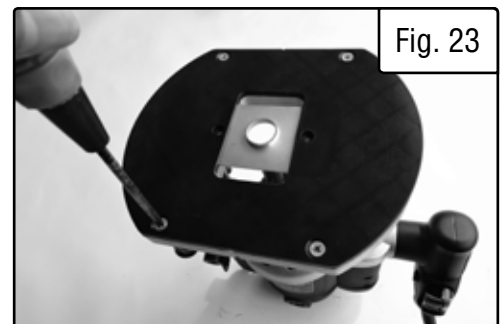

Fig. 23
2. Place the template guide or template guide adapter in the recess on the opposite side of the base plate and tighten with the M4 X 25 screws. Ensure the template guide protrudes below the bottom of the base, allowing the router to follow the template (Fig. 23).
3. Place the plastic base plate back onto the base of the router and tighten all four screws (Fig. 23).